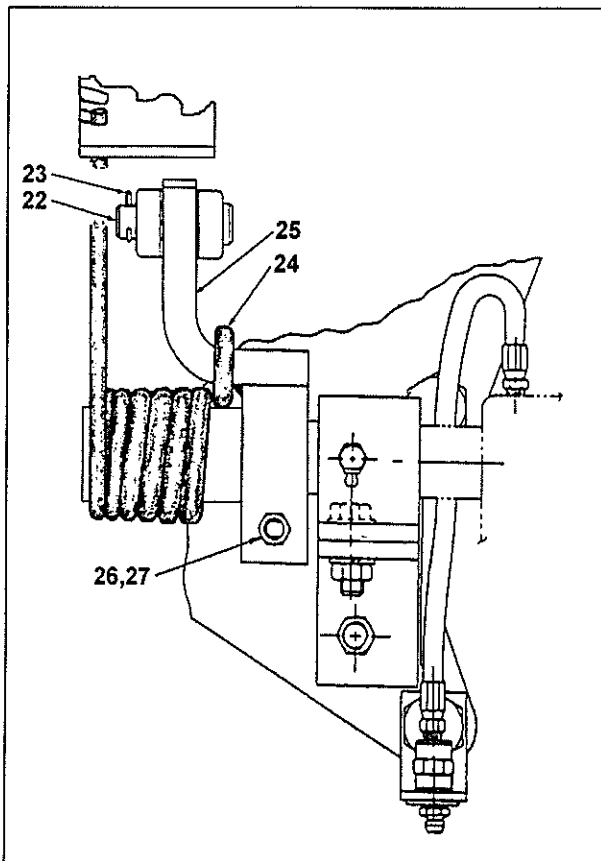
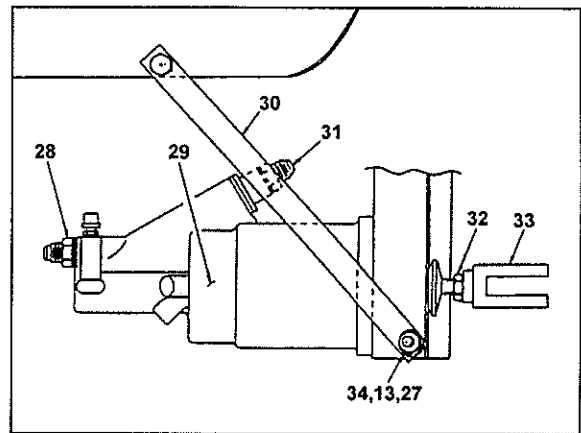

FIGURE 3: CLUTCH LEVER INSTALLATION.
FIGURE 4: SERVO UNIT MOUNTING.
Servo installation (Fig. 3, 4, 5, 6)
10. Install spring (22) on lever (23) as illustrated on figure 3.
11. Loosely mount M10-1.5 x 50 mm bolt (38) and nut (32) on support.
13. Use clevis pin (22) to assemble chromated yoke to lever. Secure pin with a new cotter pin (23).
14. Secure lever to clutch release shaft using a 3/8"-16 x 2 1/4" bolt (26) and self-locking nut (27).
20. Reinstall the three bolts, (previously removed, step 2), on top of transmission making sure to position brace (30) as illustrated in figures 4 and 5. Apply removable threadlocker (not supplied with kit) on bolt threads. Fix the brace other extremity to servo unit support using 3/8"-16 x 1" bolt (34), flat washer (13) and self-locking nut (27).